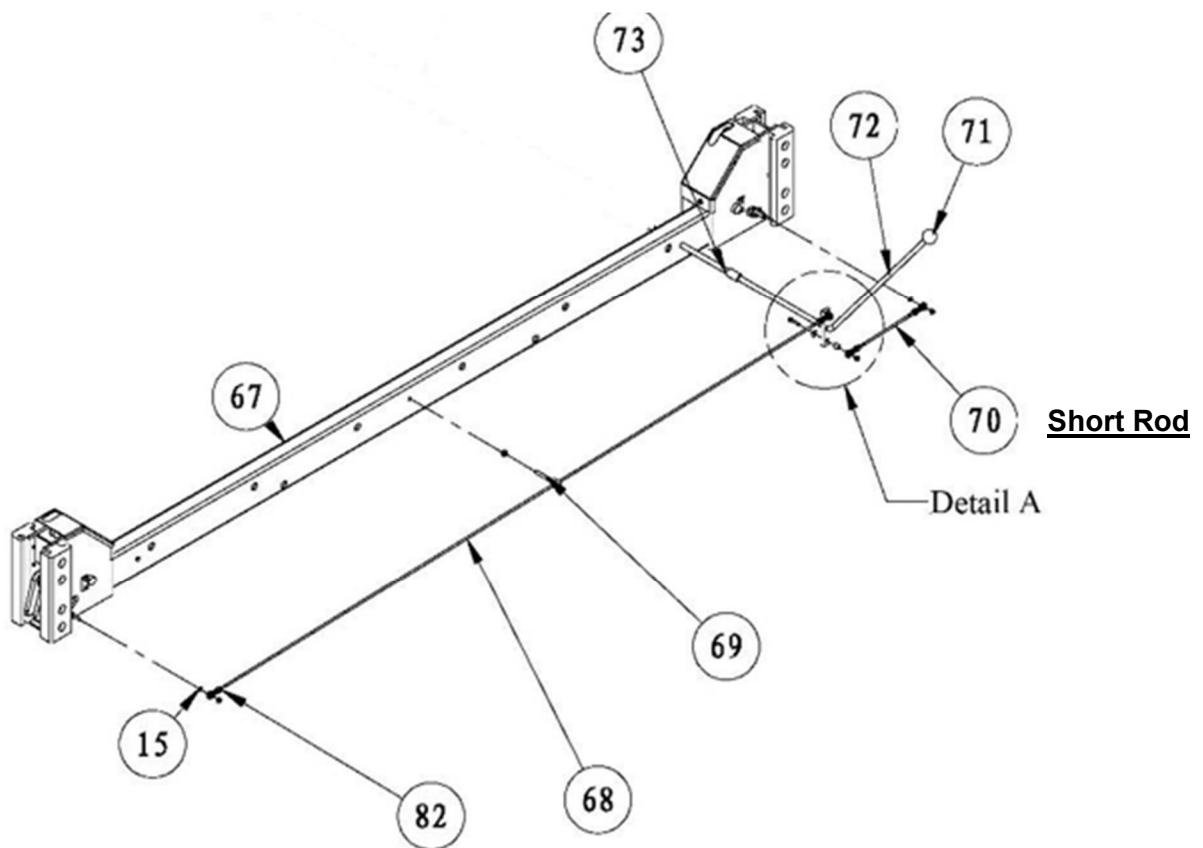

Fig. 3
9. Arrange the Crossbeams so that the LatchesqLinkage Rods are facing outward and the Short Rod (#70) is closest to the Power Unit Column, as shown below in Fig.3.